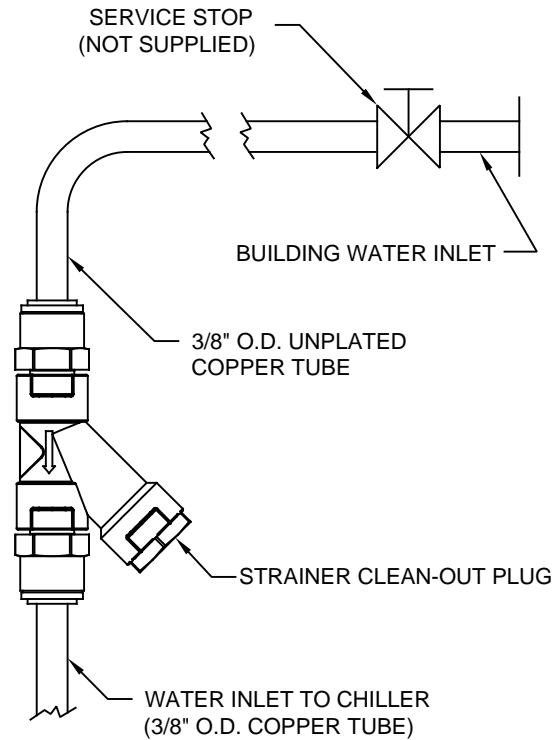

FIG. 6
**STEP 3: Water-** Connect the strainer to the water inlet (labeled “Water In”) of the unit, and then connect the water supply line to the water strainer. Connecting lines to be of unplated copper, thoroughly flushed to remove all foreign matter before being connected to chiller. Connect the water outlet (labeled “Water Out”) of the unit to the water fountain. Refer to Figure 2 – Page 7 and Figure 6 – Page 8.
Ensure water source has been shut off, and depressurize the system by operating the water fountain button. Remove the strainer cleanout plug (Fig 6 – Page 8). Be aware water may leak from the strainer connection. Remove the strainer element (mesh screen) and remove any debris from the mesh and the strainer. Once clean, place the strainer element in the cleanout plug and insert both into the housing. Thread the strainer cleanout plug into the housing until it bottoms out. After bottoming, do not add additional torque.